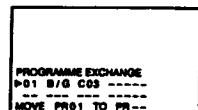

Fig. 9
- Select "PROGRAMME EXCHANGE" with $\Delta+$ or $\nabla-$ and press OK. The PROGRAMME EXCHANGE menu appears. (See Fig. 9.)